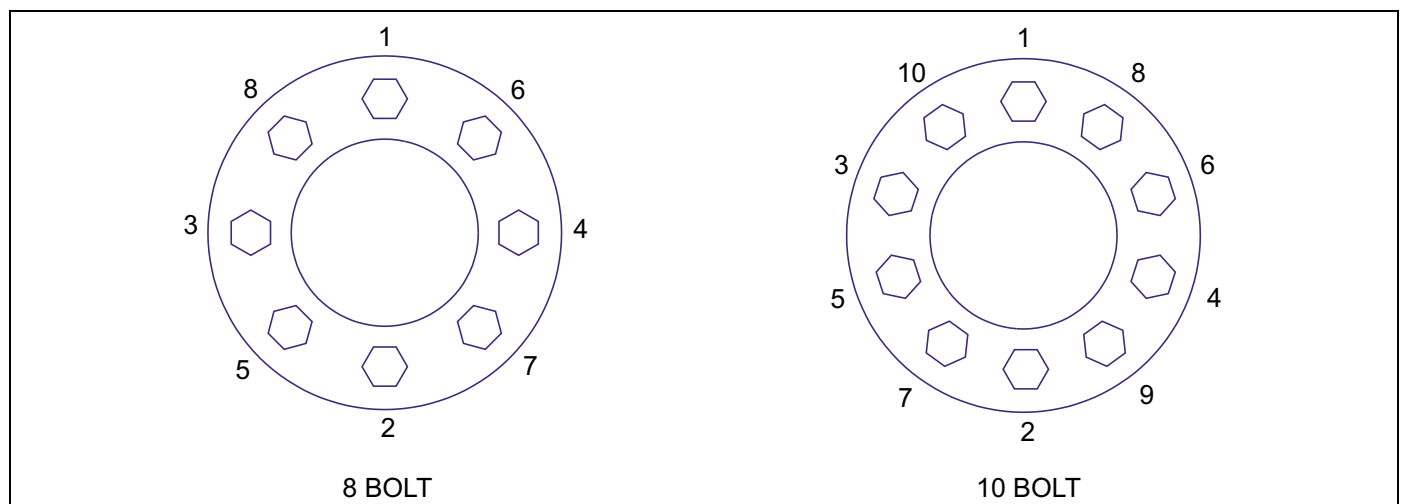

Figure 4-18: Stud Tightening Sequence
4. Install the flange nut (pilot mount) and tighten to 50 foot-pounds using the sequence in Figure 4-18. Then tighten to full torque of 450 to 500 foot-pounds.
Improper tightening sequence	Follow proper tightening sequence (See Figure 4-18.)